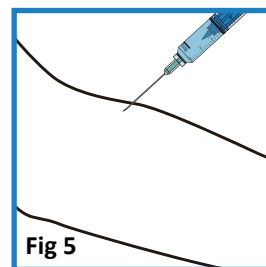

Fig 5
4. Expel all air bubbles within the barrel of the syringe and then perform the injection. Inject slowly (Fig 5).